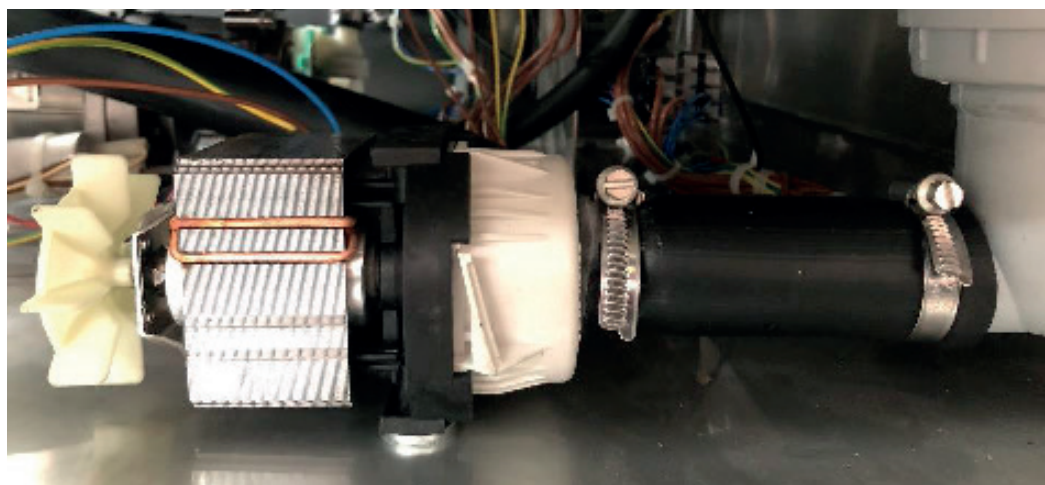

Figure 4: Connection between the pump and the collector using the pipe.
- Attach the drain pump to the body using the corresponding holes (2 stainless D-933 M-6X15 bolts and 2 D-125 6 mm stainless washers). Ensure that the drain pump vent is at a sufficient distance from the wiring. **See figure 4.**